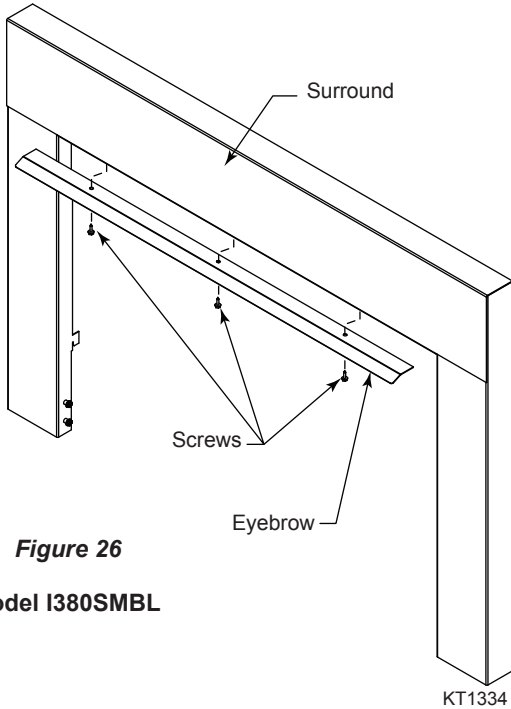

Figure 26
1. Attach the eyebrow canopy to the surround using three (3) screws provided. *Figure 26*